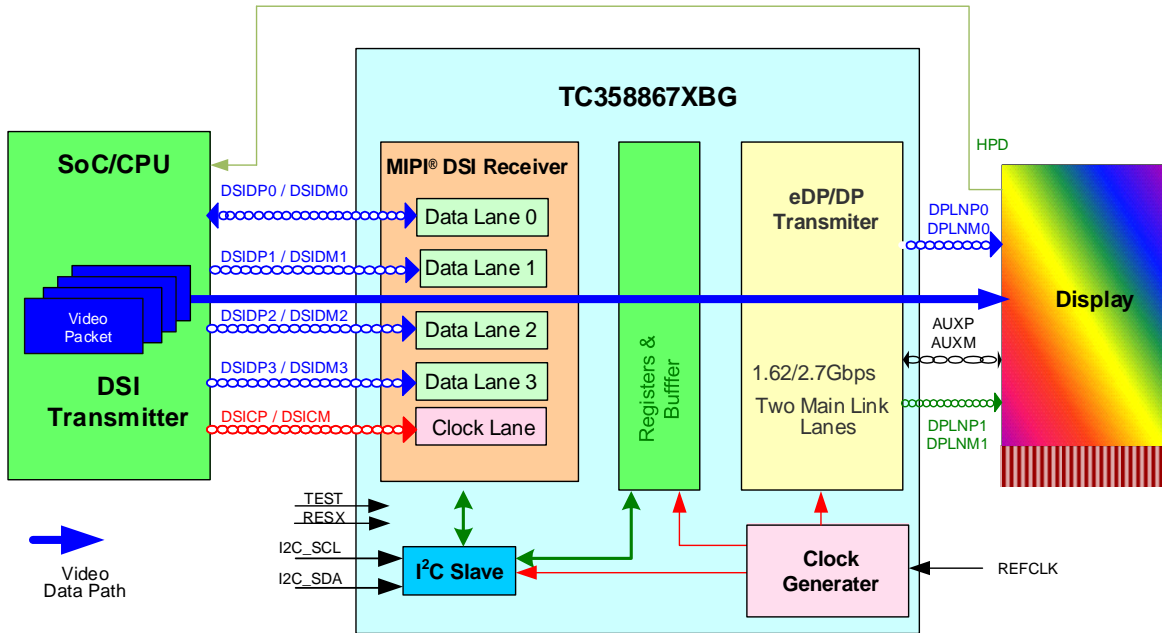

Figure 1.1 System Overview with TC358867XBG in MODE_S21 Configuration
- Mode_S21: A system configuration where TC358867XBG may typically be used is shown in Figure 1.1. In this configuration, the TC358867XBG can support displays with resolution up to WUXGA (1920×1200) at 24bit, 60 fps or WUXGA (1920×1200) at 18bit, 60 fps. Video stream source is from DSI Host.